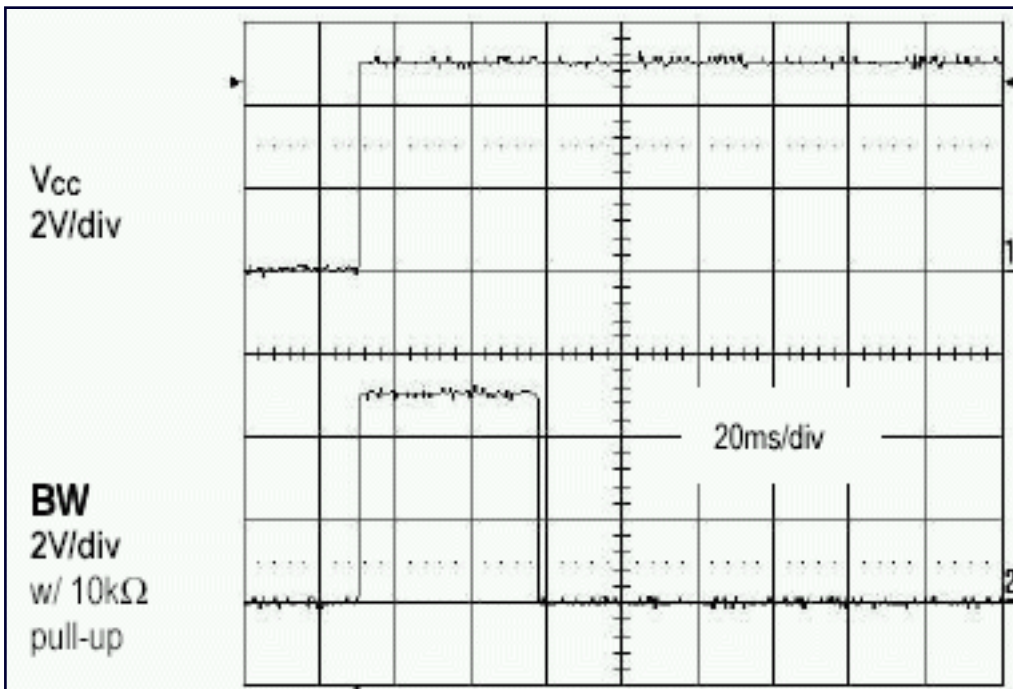
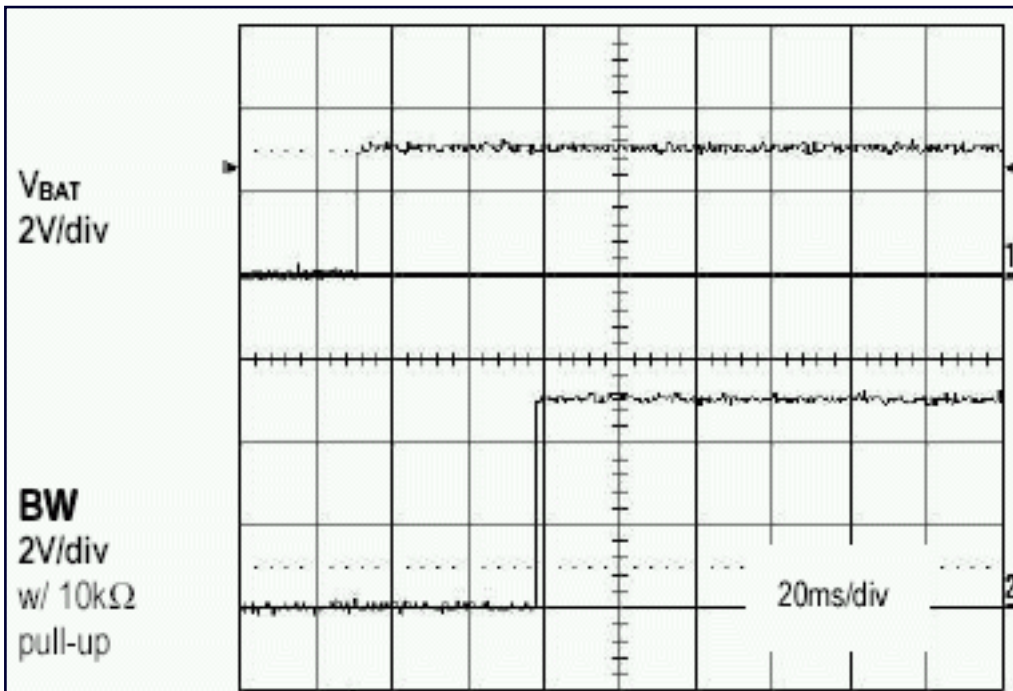

Figure 2. Power-on battery test fails ($V_{BAT} = 2.55V$).
Figure 3. Battery Test Passes with Fresh Cell ($V_{BAT} = 3.15V$).
At power-up, and again approximately every 24 hours, an internal 1M Ω test resistor is connected across the battery terminals for one second and the battery voltage is sampled. During that one second period, should the battery voltage (V_{BAT}) fall below a factory-programmed battery warning trip-point ($\sim 2.6V$), the battery warning output (BW) will be asserted. (see **Figure 2**) Once asserted, battery testing will be performed approximately every 5 seconds to detect battery removal, and BW will remain active until the weak battery is physically removed and replaced with a fresh cell. Once a fresh cell has been attached, the first passing test result will deassert the BW output and the test interval will return to 24 hours. (see **Figure 3**) BW is an open-drain output driver.